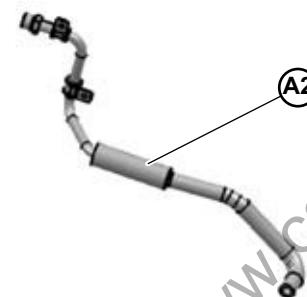

Fig.14
9. Remove and extract the front **A1** and **A2** power steering circuit pipes (Fig.14).